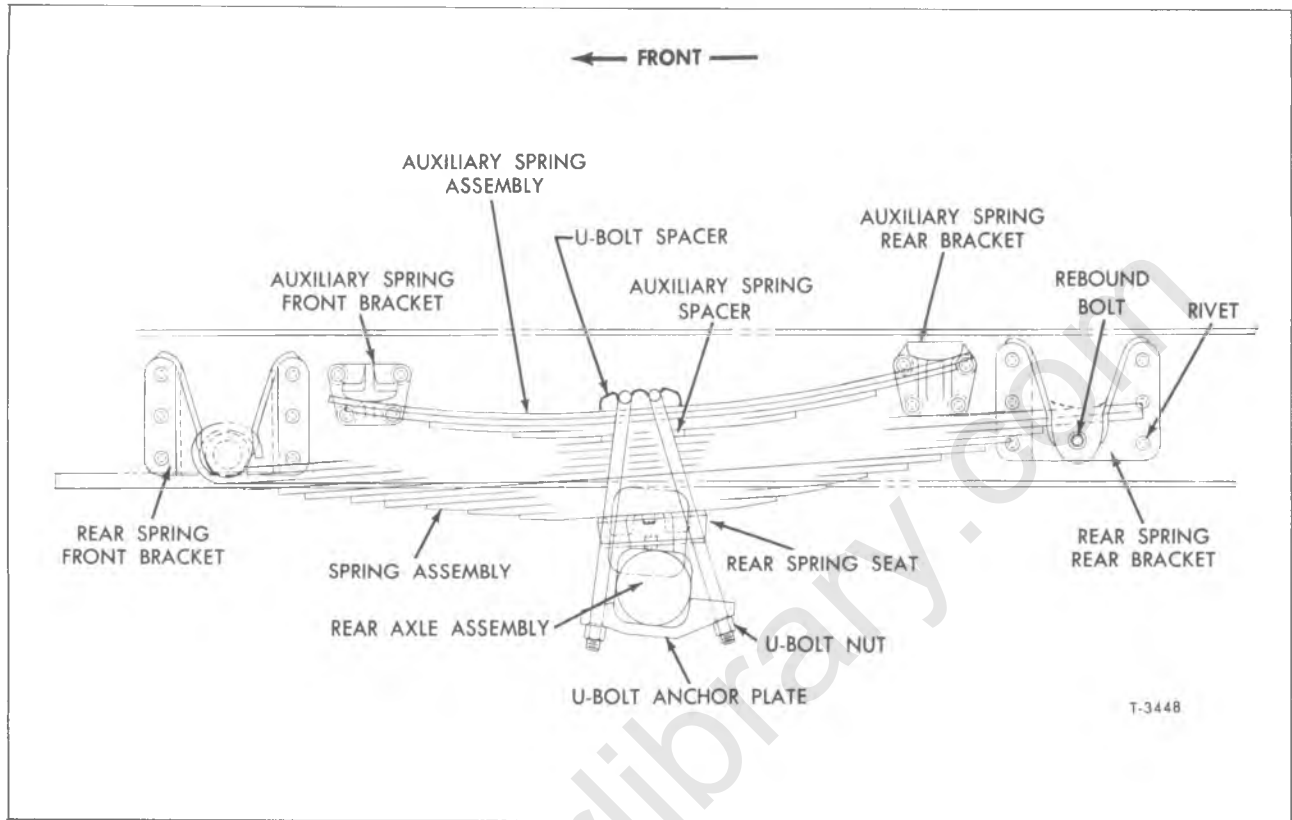

Figure 2—Rear Springs Installed (Typical for "E" and "S" Models)
Two slanted U-bolts attach the spring pile and radius leaf to the axle housing. Vari-rate type rear springs shown in figure 2 are used on all "E," and "S" Series vehicles. The spring eye is bushed and bolted to a bracket at front and is cam-supported at rear. Cam action of the spring leaf produces a variable deflection rate as contact point changes under varying load.
5. On "E," and "S" Series, remove rebound bolt nut and washer, then remove rebound bolt (fig. 2).